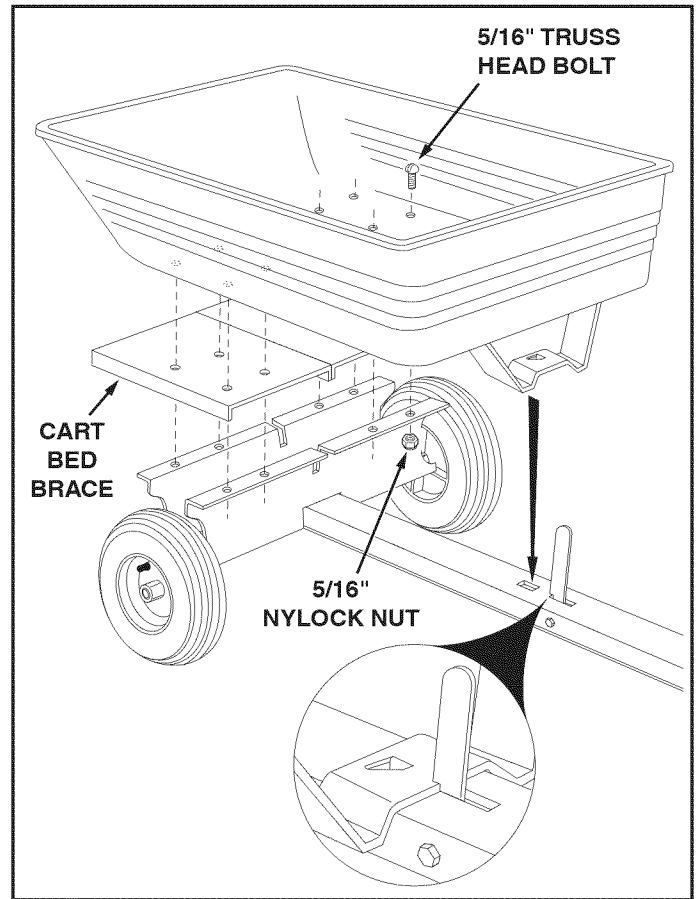

FIGURE 6
- Place the cart bed braces and the cart tray onto the wheel support. Secure latch stand bracket underneath the tongue's latch lock lever. See figure 6.
- Assemble the cart tray and cart bed braces to the wheel support using eight 5/16" truss head bolts and 5/16" nylock nuts. Tighten nuts after all bolts are in place. See figure 6.